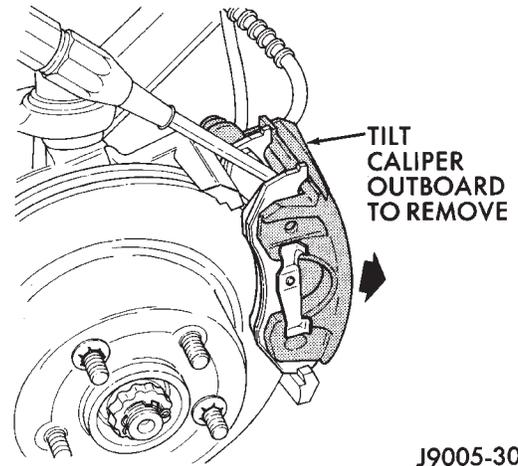

Fig. 29 Caliper Removal
- (7) Tilt top of caliper outward with pry tool if necessary (Fig. 29) and remove caliper.
- (8) Remove caliper from vehicle.